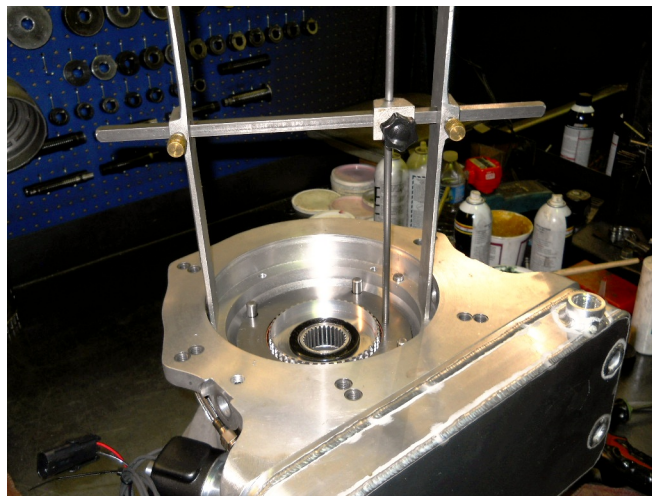

FIGURE 6
- **SERVICING BRAKE CLUTCH:** To service the brake clutch pack in the Quick Drive, it is recommended that the drive unit be removed from the race car. Once removed, the dump valve solenoid, housing and manifolds must be removed from the drive unit so that the rear piston housing may be removed. Remove the 5 bolts retaining the rear piston housing. Use a slide hammer and the two 5/16” threaded holes to remove the pan. You may find it easier to remove the pan with a screw driver or small pry bar to spread the clutch pack through the access slots in the bottom of the drive unit. Once the piston housing is removed, remove the clutch components from the drive unit, paying close attention to the assembly order and the orientation of the thrust bearings on either side of the clutch hub. Inspect the frictions for signs of burning, flaking, etc. Inspect the steels for any signs of damage. Some distortion of the steels in the area around the outside diameter where they engage the 4 dowel pins is normal; this can be filed smooth if you desire. Reassemble the clutch pack in this order: first the thrust bearing must be installed into the center support, then the clutch hub. Next, install the frictions and steels, starting with a steel plate against the center support, then altering steel plate and friction until 9 frictions and 10 steels have been installed, ending with a steel plate. Measure clutch pack clearance as follows. Set up your H Gauge to rest on the mounting surface in the case where the piston housing bolts in, with the center rod contacting the end steel plate (closest to the rear of the unit). See Figures 6 and 7.